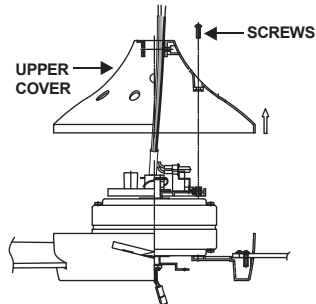

Fig. 7
Step 3. (Fig. 7) Replace the upper cover to the motor and secure with the 4 screws previously removed.